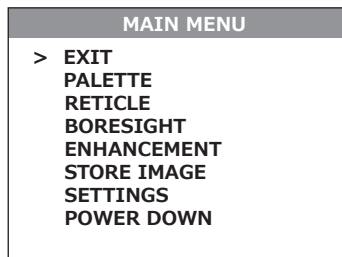
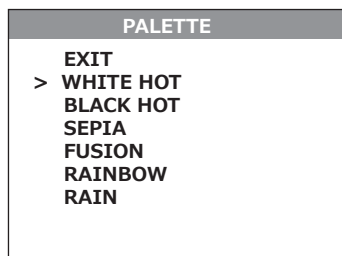

FIGURE 3-10. MAIN MENU
FIGURE 3-11. PALETTE MENU
Once the MAIN MENU is displayed (Figure 3-10), use the UP(1) and DOWN (2) buttons (Figure 3-11) to navigate through the items on the menu.
The PALETTE menu (Figure 3-11) allows you to select from a choice of temperature imaging modes: White Hot, Black Hot, Sepia, Fusion, Rainbow, and Rain.